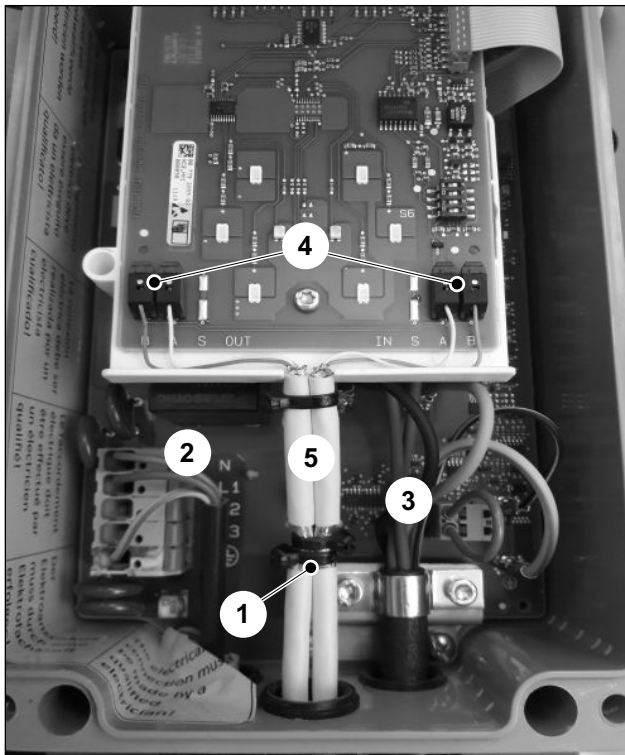

Fig. 5 Cable gland for line wiring
All other wallboxes have two bus lines routed to them (Fig. 5).
The individual wires of the power supply unit (Fig. 5/2) and of the charging cable (Fig. 5/3) must be laid at the greatest possible distance from the bus lines.
3. Fasten the exposed shields to the shield support with one or two cable ties (Fig. 5/1).
4. Strip two individual wires approx. 8 mm and connect these to the appropriate terminals (Fig. 5/4).
The bus lines must be jacketed between the shield support and connection board (Fig. 5/5).